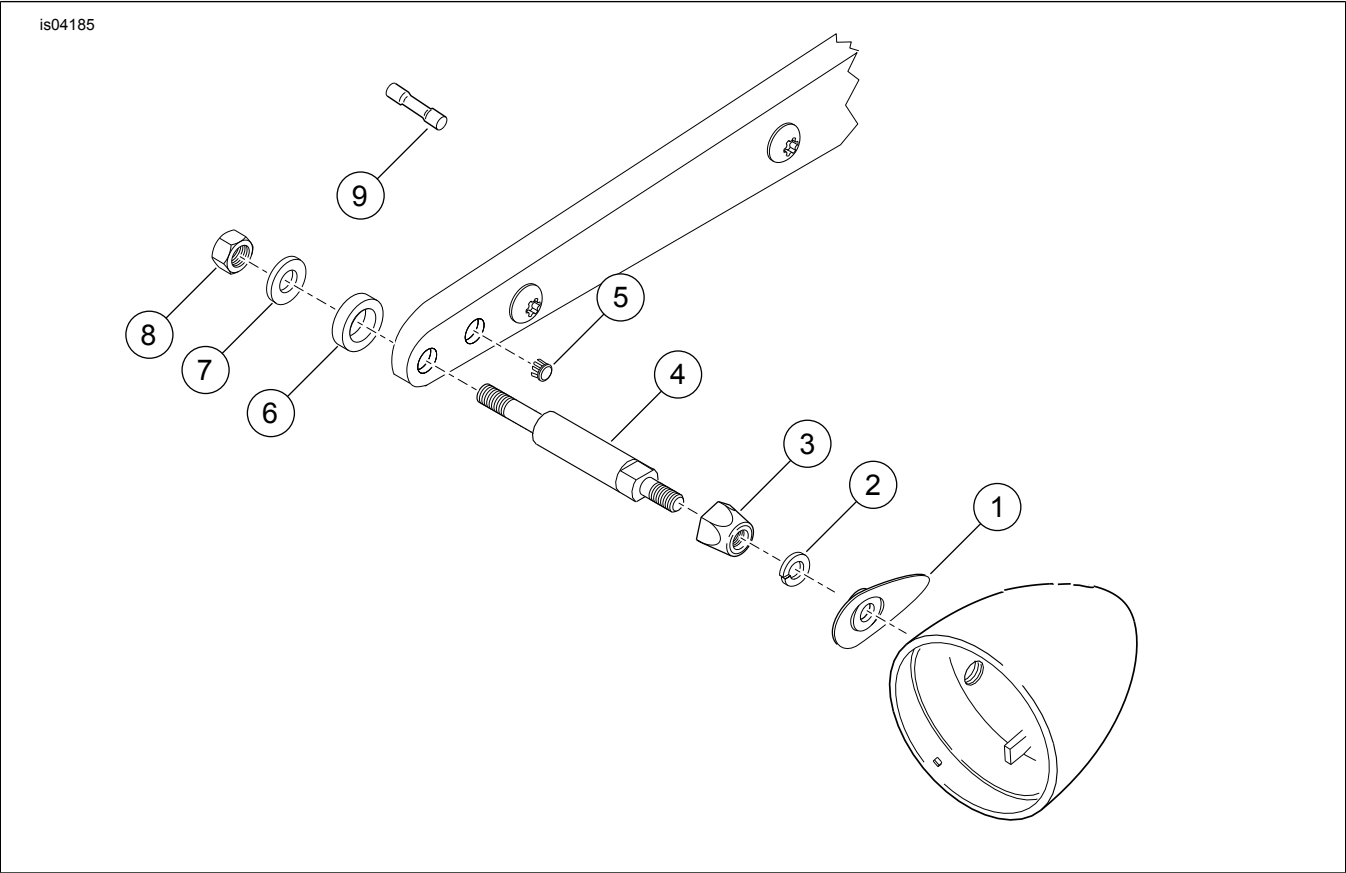

Figure 7. Service Parts: Turn Signal Relocation Kit
- See Figure 7. Insert the long threaded end of the new turn signal stalk (4) through the rear mounting hole in the fender support bracket, spacer (6), and the rear fender.
- See Figure 7. Insert the long threaded end of the new turn signal stalk (4) through the rear mounting hole in the fender support bracket, spacer (6), and the new hole in the rear fender.
- Apply Loctite 243 (blue) to the threads of the turn signal stalk. Secure the stalk with washer (7) and locknut (8) from the kit. With a wrench on the stalk wrench flats, tighten the stalk and locknut to 20.3 N·m (15 ft-lbs).
- See Figure 7. Loosely install a jam nut (3), followed by a lock washer (2) onto the short threaded end of the turn signal stalk (4).
- Place the recess cover (1) into position over the recess on the turn signal housing. Insert the wires from the reflector through the grommet into the turn signal housing, through the threaded hole and the recess cover, and into the turn signal stalk.